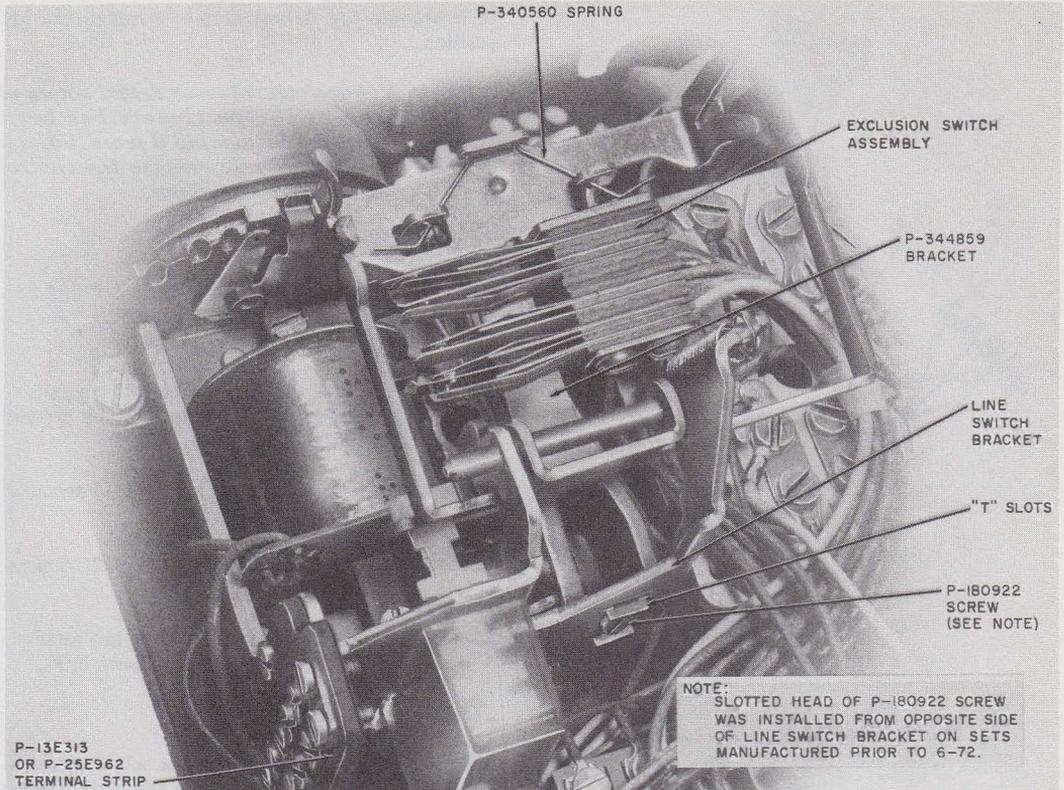

Fig. 6—D-179935 Exclusion Kit, Installed
- (1) Insert the P-344859 bracket into the two T slots precut in the line switch bracket (Fig. 6).
- (2) Tighten the P-180922 screw which holds the bracket in the T slots.
- (3) Mount the exclusion switch assembly on the bracket (Fig. 6) and fasten in place using the P-340560 spring.
- (4) Remove the P-13E953 plunger from the left side of the telephone set housing and replace it with the P-14A613 exclusion plunger.
2.27 These auxiliary terminal strips are attached to the line switch bracket as shown in Fig. 6.